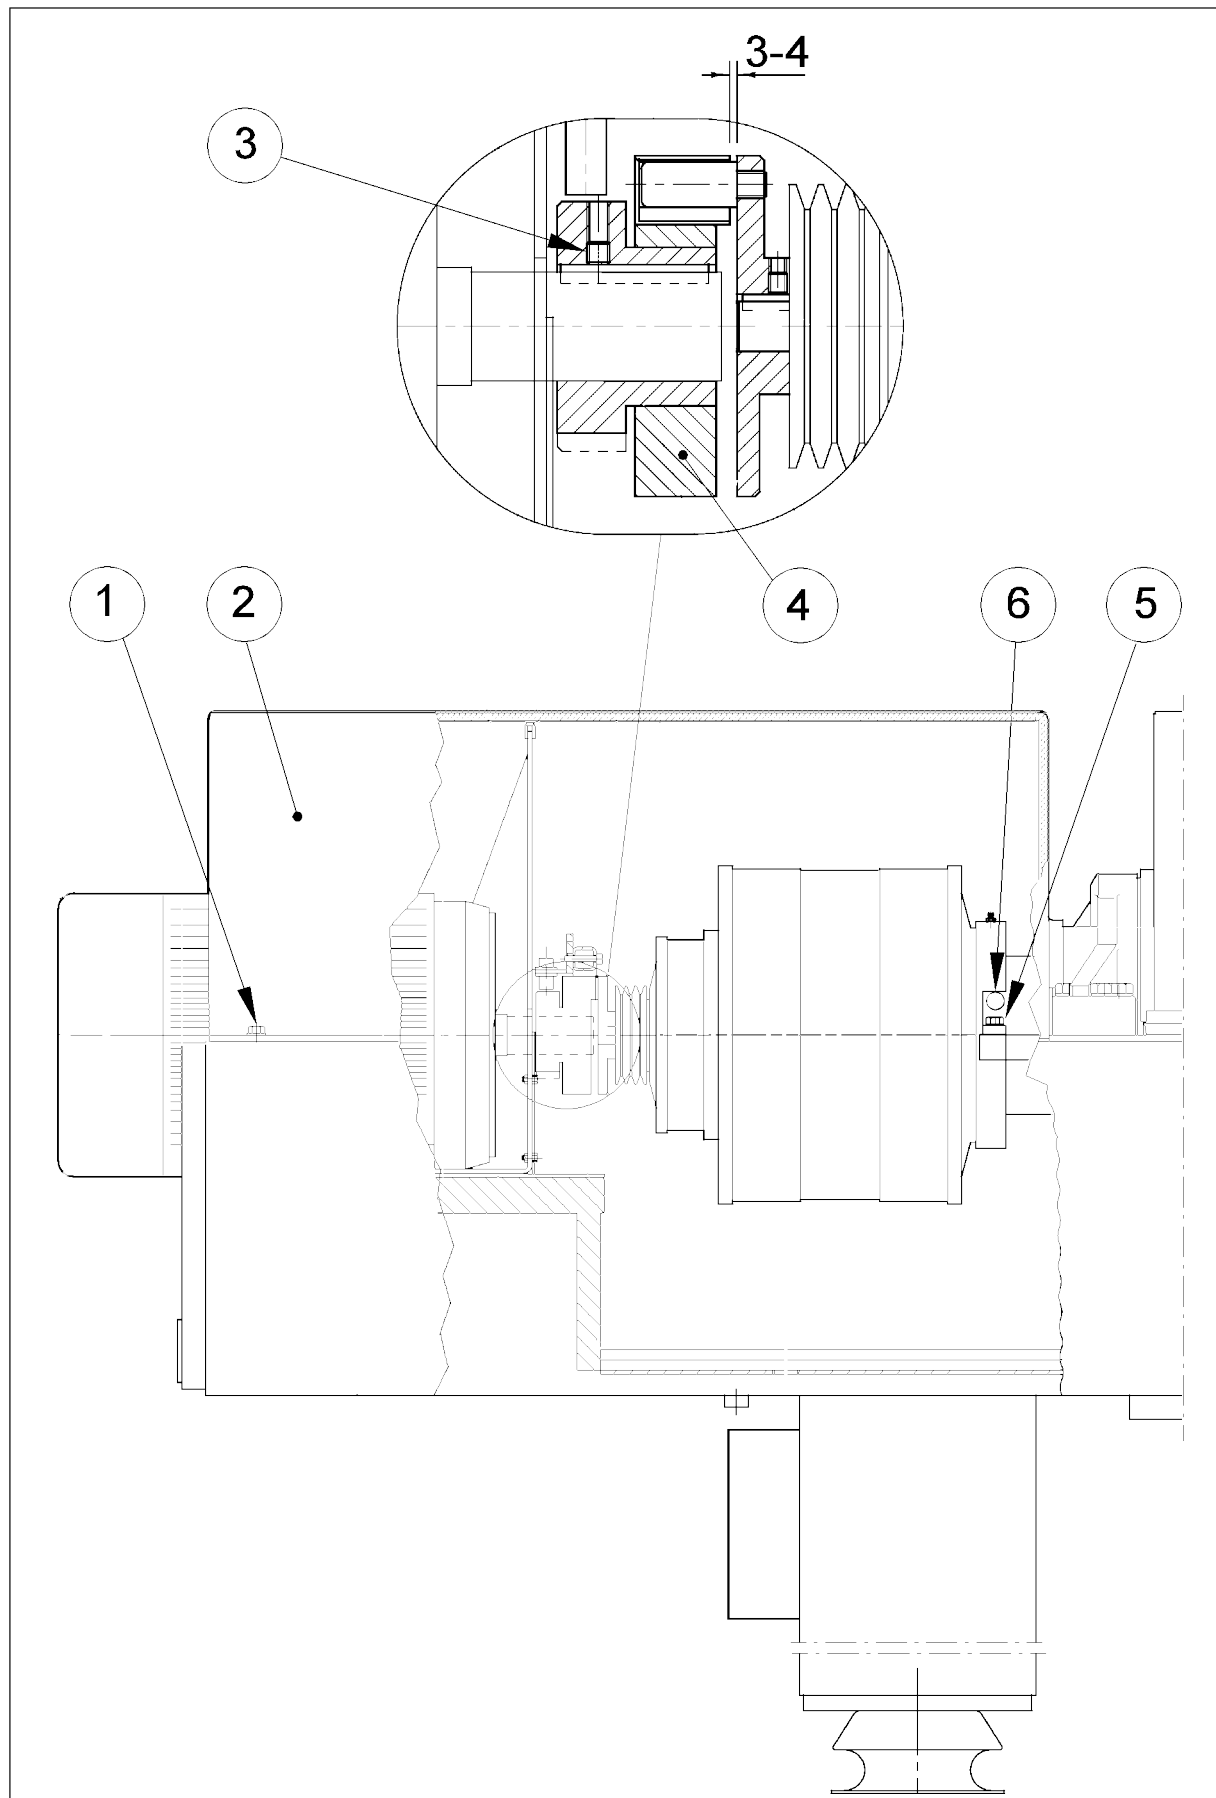

Figure 4.6.1
4.6.1 Disassemble Eddy Current Brake / Variable Frequency Drive (Fig. 4.6.1)
4.6.2 Assemble Eddy Current Brake / Variable Frequency Drive (Fig. 4.6.1)